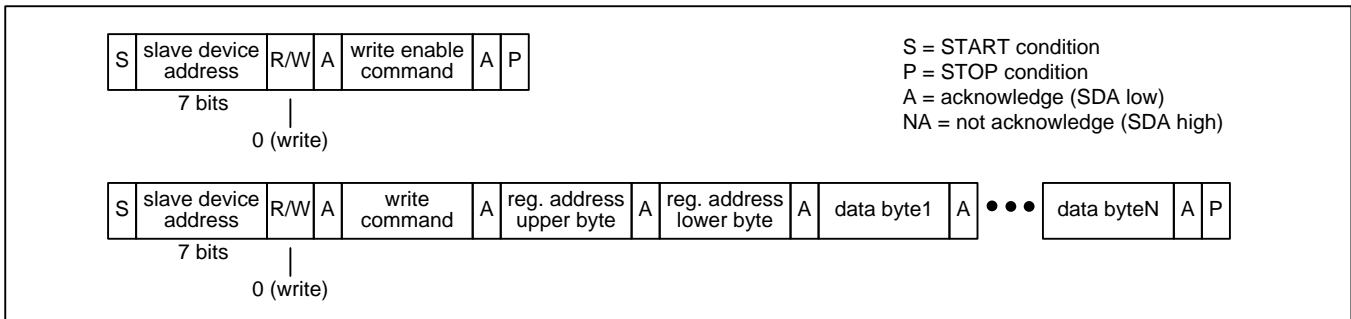

Figure 10 - I2C EEPROM Write Transaction Functional Timing (ZL40251 and ZL40253 Only)
**EEPROM Writes (ZL40251 and ZL40253 Only).** The EEPROM memory is accessible when the **EESEL** bit is 1. The bus master first does an I2C write to transmit the SPI Write Enable command (see Table 3) to the device. The bus master then does an I2C write to transmit data to the device as described in the Register Write Transactions paragraph above. See Figure 10.